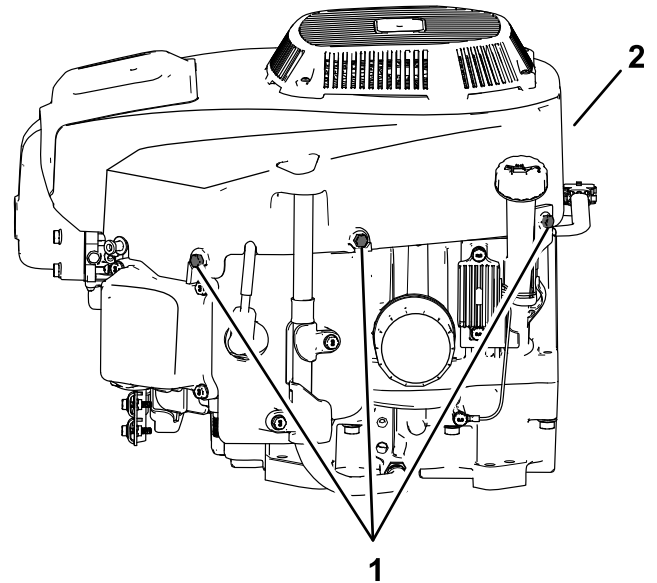

Figure 38
4. Loosen the bolts and remove the fan housing (Figure 38).